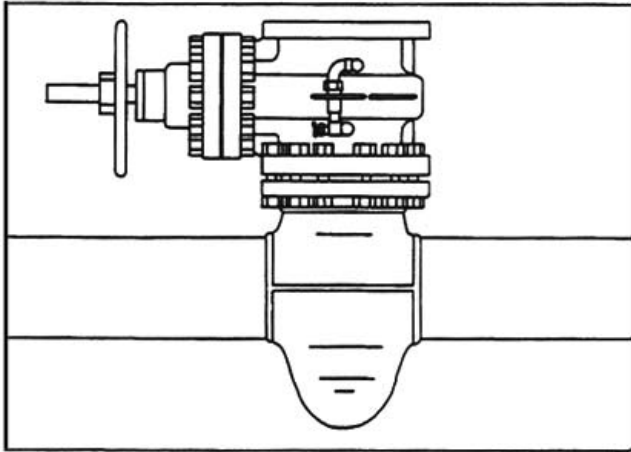

FIGURE 5
- a. 8" line stopper fittings having Class 300 or 400 flanges do not require a valve adapter between the fitting and gate valve. **Figure 5.** Check to be sure the gasket is in good condition and in place. The bolt nuts should be loose at this point to permit the gate valve to be shifted slightly if necessary.